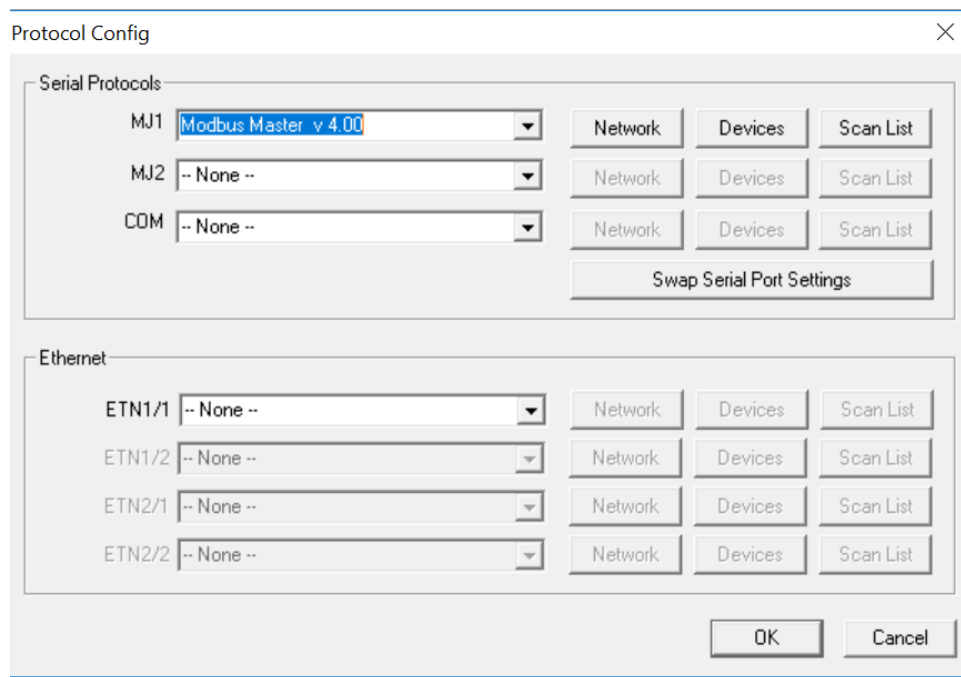

Figure 8.1 – Protocol Config Dialog
1. On the main *i³* Config screen, select the **Controller** menu and its **Hardware Configuration** sub-menu to open the Hardware Configuration dialog (Figure 8.1).